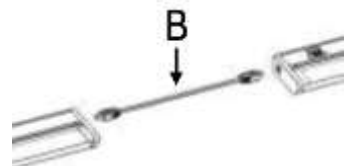

Fig. 6
1. Locate the linking cord (B).
4. Insert the linking cord into the appropriate ports on both lights, joining them together (Fig. 6).